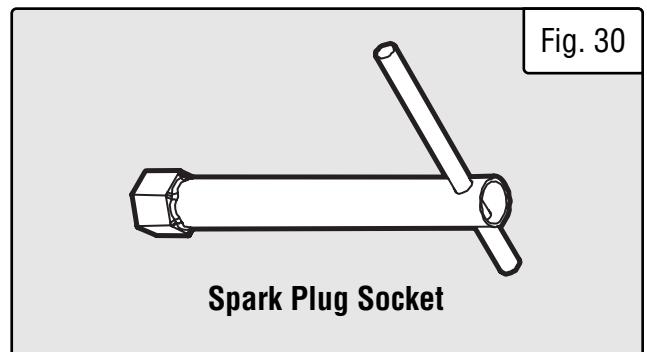

Fig. 30
2. Use the included spark plug socket (Fig. 30) to unscrew and then carefully remove the spark plug from the engine.